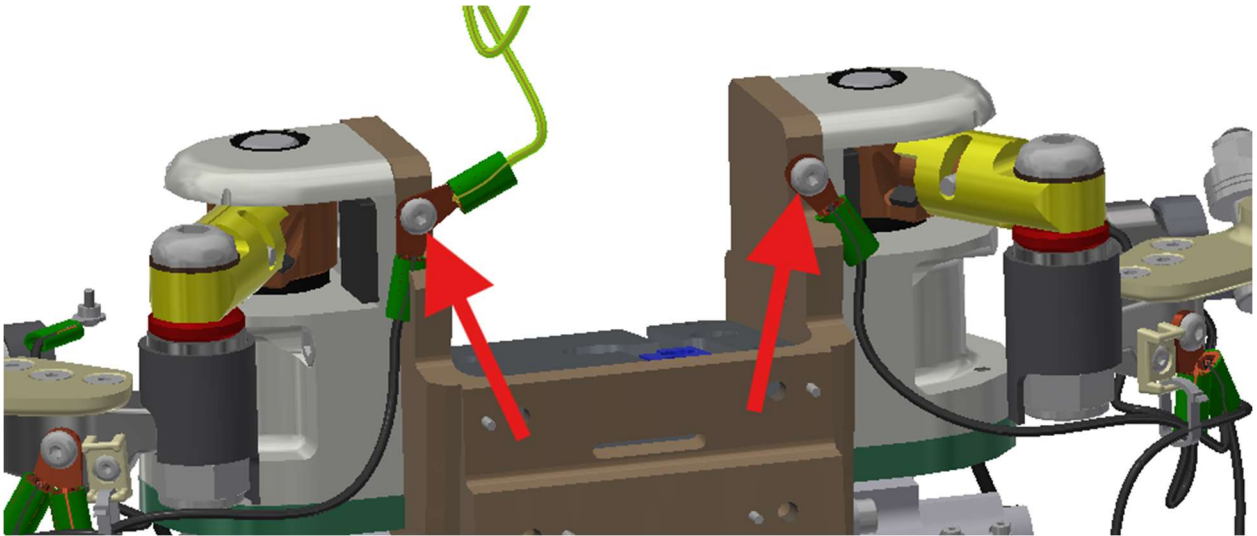

Figure 5-20. Remove the ground strap from the rear of the right Shoulder Assembly (474-3500-2-A)
- 5.2.14 Remove the ground strap from the rear of the Left Shoulder Assembly (474-3500-1-A) and Right Shoulder Assembly (474-3500-2-A) by removing two M4 X 0.7 X 6 BHCS (Figure 5-20).